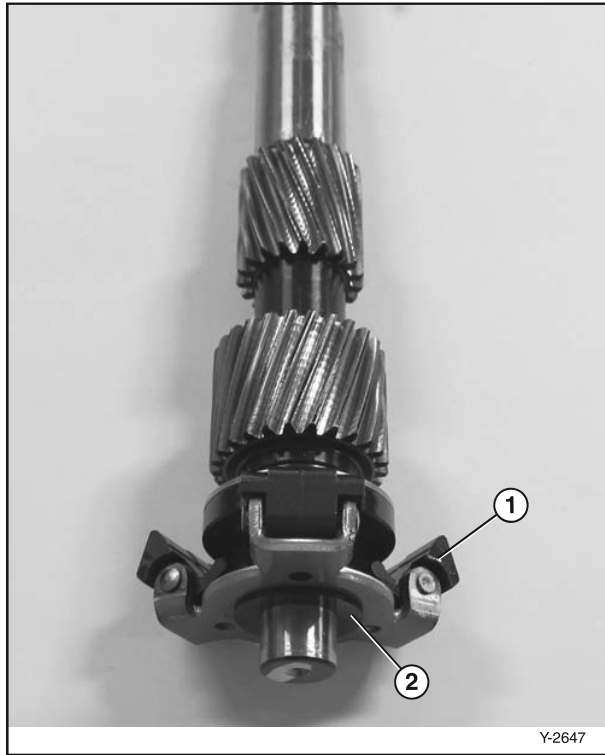

Figure 6-54
1. When installing the input shaft make sure to use the same shim (Figure 6-54, (2)) that was removed. (Figure 6-54, (1)) shows the weights.